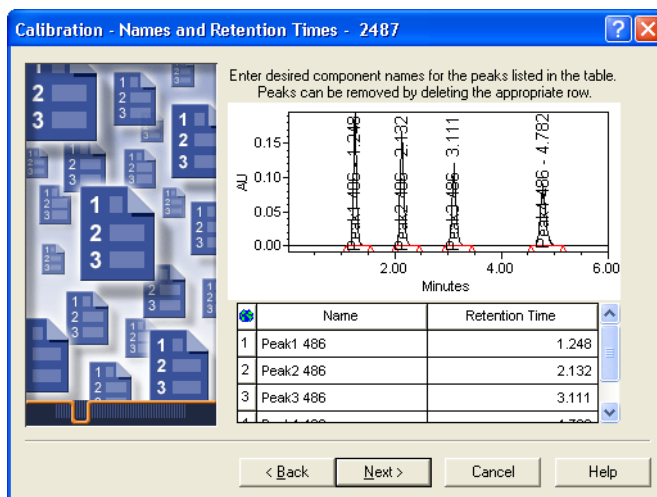

Figure 4-27 Processing Method Wizard, Calibration–Names and Retention Times Page
- Click **Yes** to add channel names to the Channel fields for new components. The Calibration–Names and Retention Times page appears (Figure 4-27).